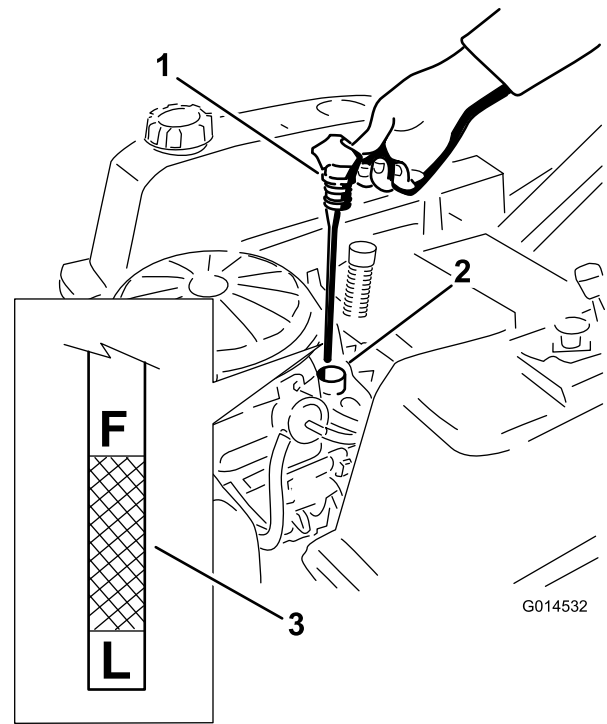
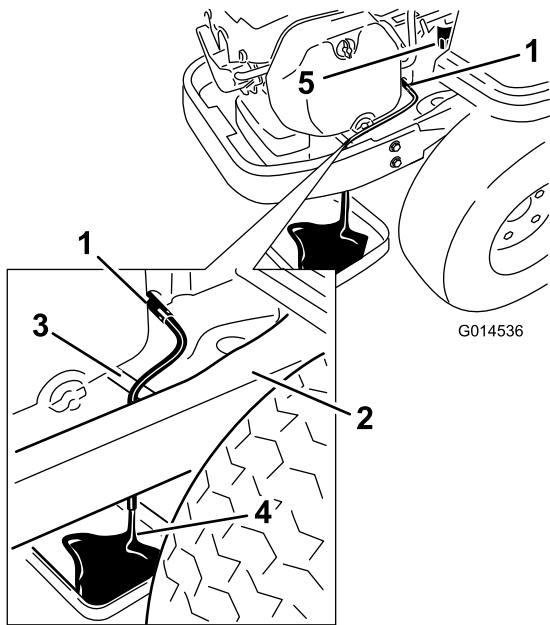

Figure 29
Figure 31
- Remove the dipstick and check the oil level. (Figure 29). The oil level should be up to, but not over, the **F** mark on the dipstick.
- Pull and remove the oil fill cap/dipstick; wipe oil off. Reinsert the dipstick and push firmly into place (Figure 29).
6. Place a pan underneath machine directly below the drain hose as shown in Figure 31.
7. Turn the drain valve 1/4 counter clockwise to open and allow the oil to drain (Figure 31). Remove the oil fill cap/dipstick (Figure 29).
9. Remove the old filter and wipe off the mounting pad (Figure 31).
10. When oil has drained completely, close the oil drain valve. Remove the oil drain hose and wipe up any excess oil on the frame (Figure 31).
14. Slowly pour approximately 80% of the specified oil into the filler tube (Figure 29).
15. Install the oil fill cap/dipstick and push firmly into place (Figure 29).
16. Check the oil level (Figure 29); refer to Checking the Oil Level.
18. Install the oil fill cap/dipstick and push firmly into place (Figure 29).